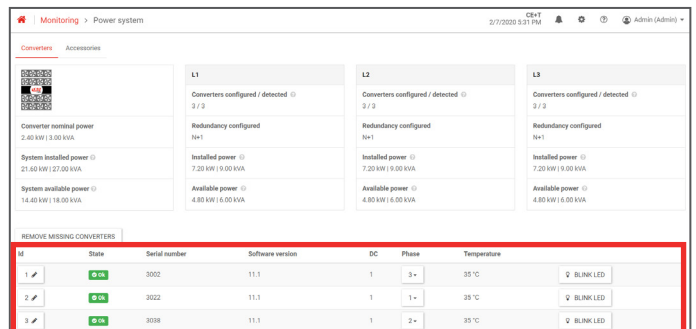

Figure 8: Modules list
- Go to Power System page (Home page > Power system) and verify all the inserted modules are present in the list. (Figure 8)